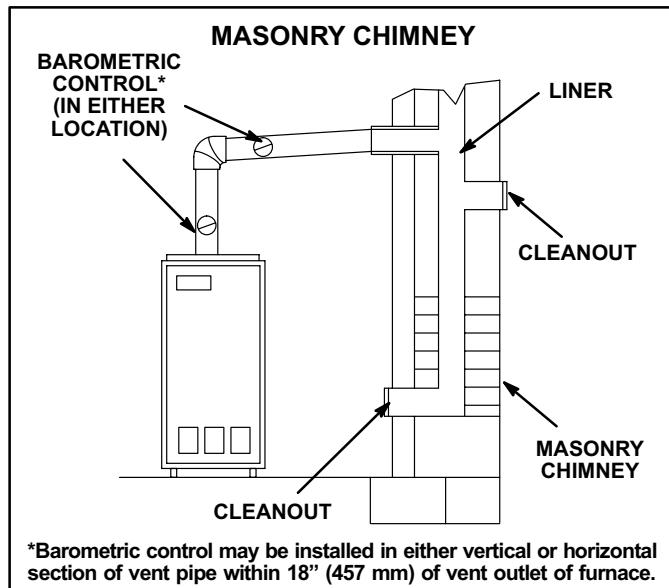

FIGURE 9
- 9 - The vent pipe should slope upward toward the chimney on horizontal run at least 1/4 inch (6 mm) to the foot (0.3 m) and should be supported by something other than the furnace, such as isolation hangers. See figure 9.